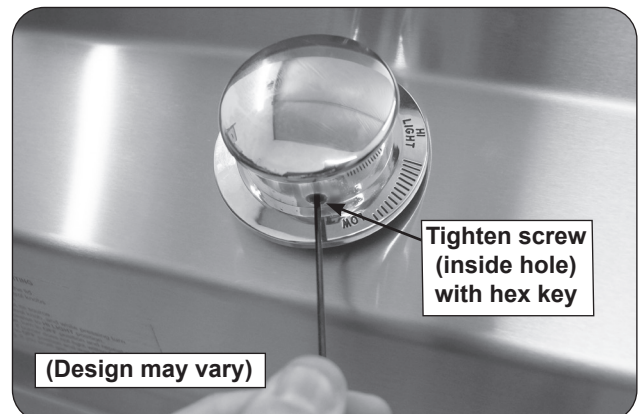

Fig. 31-4 Tighten screw to lock knobs
3. Insert the included .078" (2mm) hex key through the small hole located on the side of the knob and fully tighten the screw (see Fig. 31-4).